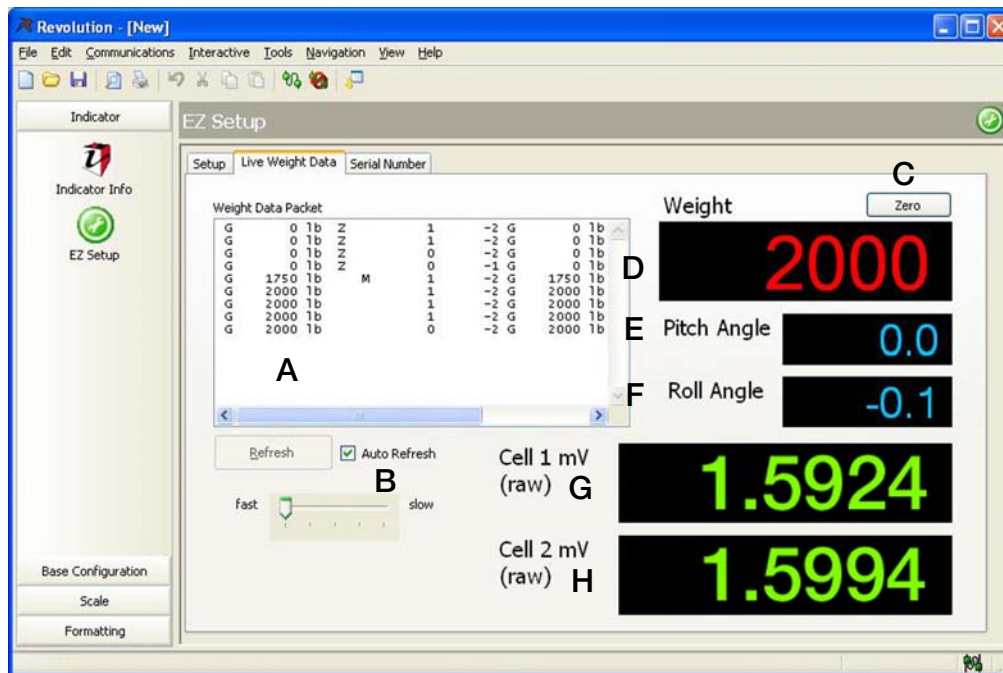

Figure 4-7. Revolution Live Weight Data screen.
1. Select the *Live Weight Data* tab (Figure 4-7).
*Weight data packet screen shows output format of CLS-M. Other displays include weight, pitch angle, roll angle, cell 1 & 2mV. (Figure 4-7). This is the information that will be sent to the customer supplied handheld device when attached through Bluetooth.*